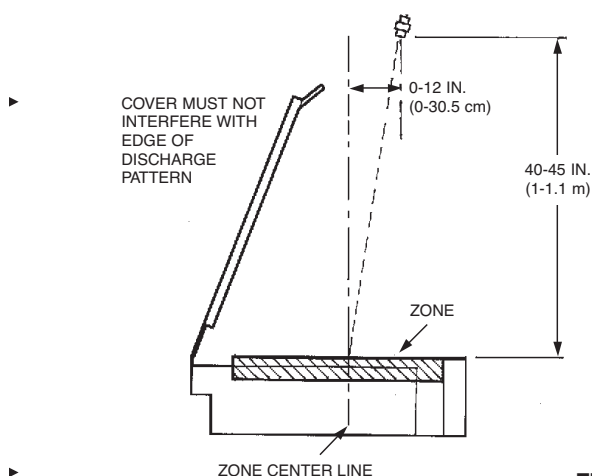

FIGURE 92
* See Figure 92 for nozzle location